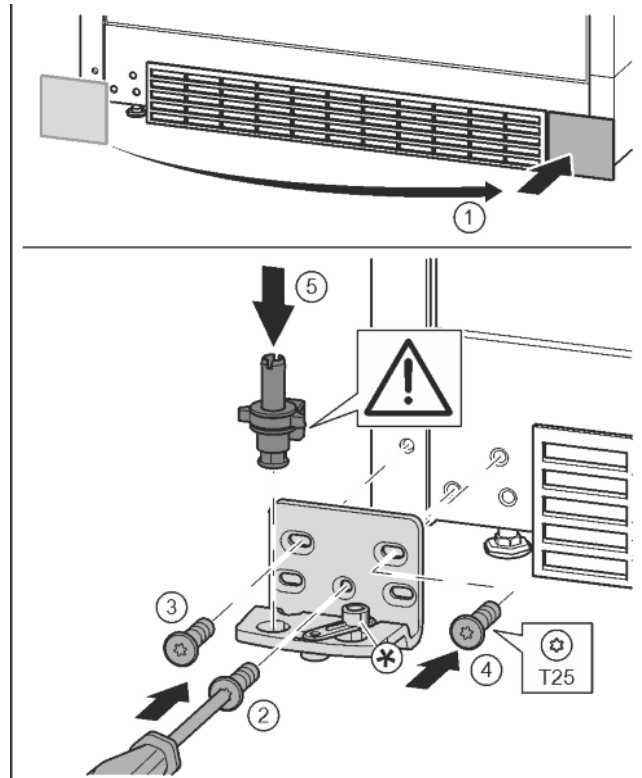

Fig. 16
- ▶ Remove the cover and fix onto the other side. *Fig. 16 (1)*
- ▶ Place the bearing bracket on the other side and screw in with the T25 screwdriver. Start with screw 2 at the bottom in the middle. *Fig. 16 (2)*
- ▶ Screw in screws 3 and 4. *Fig. 16 (3, 4)*
- ▶ Insert the bearing bolts completely. Ensure here that the catch mechanism points backwards. *Fig. 16 (5)*